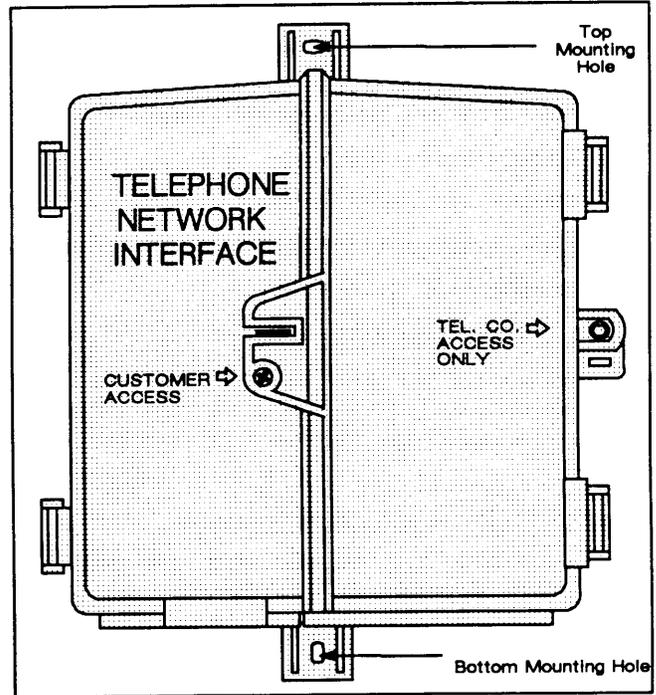

Figure 2. DDL102 DuaLine Plus Remote Terminal in the Secured Position (Closed)
Determine if the RT enclosure is to be mounted on a masonry wall, on a wood studded wall, or a hollow wall. Proceed to the appropriate installation instructions that follow. Obtain the necessary equipment, tools, and hardware for the type of installation that is to be performed. Refer to Figure 2 for RT mounting hole locations.
- (7) Seal the TEL. CO. access cover if required. See Figure 2.